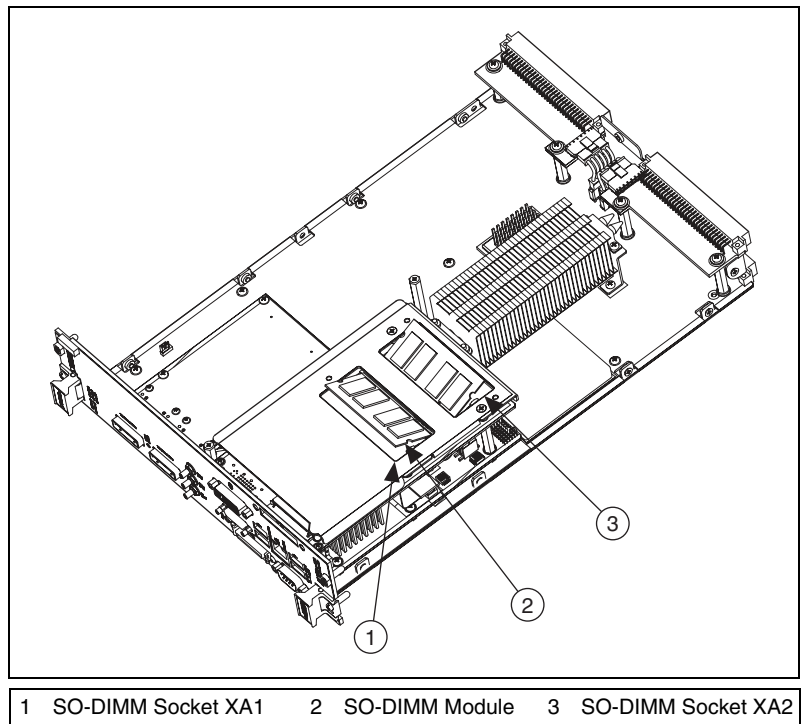

Figure 2-2. Installing a SO-DIMM in an NI VXIpc-882 Controller
3. Add the SO-DIMM modules to the empty SO-DIMM sockets. Refer to Figure 2-2.